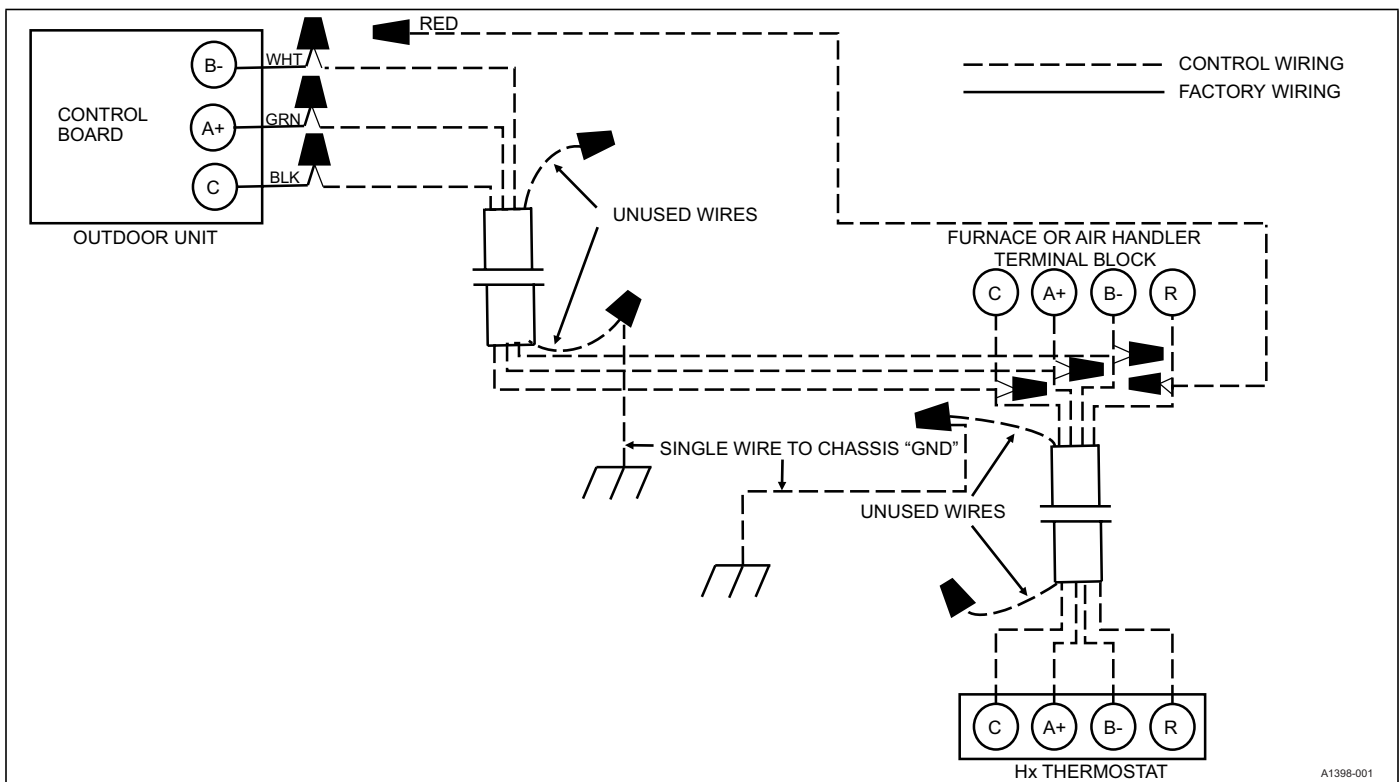

FIGURE 7: Typical Communicating Field Wiring (Air Handler / Furnace)
The complete connection diagram and schematic wiring label is located on the inside surface of the unit service access panel. An example of typical field connections can be found in Figure 7.
If the installation contains excess conductors greater than 3-4 wires (communication equipment dependent), the excess wires should be grounded to reduce electrical noise. Use a wire nut to bundle the excess wires at each end. A single wire should then be connected to "chassis ground" (near the transformer or ground lug) as shown in Figure 7.
Outdoor line voltage input wiring is designated as L1 and L2. Indoor air handling unit line voltage input wiring is designated as L1 and L2. Indoor gas furnace line voltage input wiring is designated as L1 and NEUTRAL. The L1 connection indoors must be the same phase or “leg” of power connected to L1 outdoors. To perform a transformer phasing test, there must be a 24VAC “R” thermostat wire connected to the indoor section and capped off at the outdoor section as shown in Figure 7. DO NOT connect the indoor “R” wire to the outdoor equipment. This wire is for testing purposes only.
1. If indoor equipment is an air handler, confirm the wiring connected to the air handler transformer is as shown in Figure 7. If not, correct as necessary.